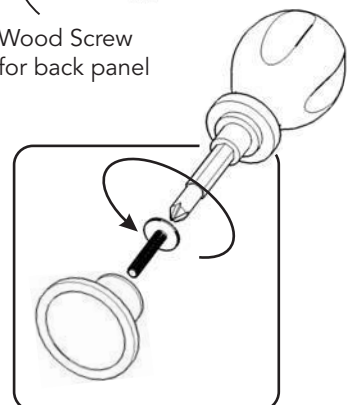

Figure 9
Assemble Knobs to Doors (J) and (K) with Machine Screws. (See Figure 9)